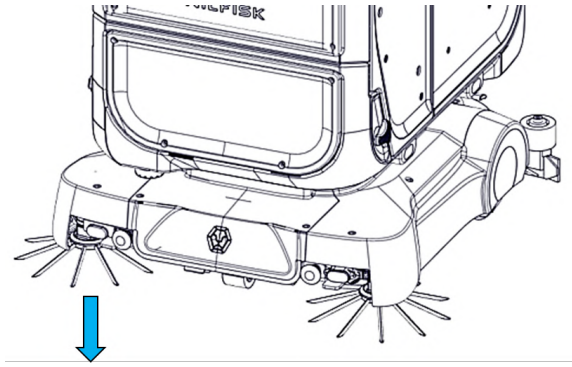

FIGURE 10-22
2. Remove the old side brush by pressing firmly down on the core of the side brush (**Fig. 10-22**).